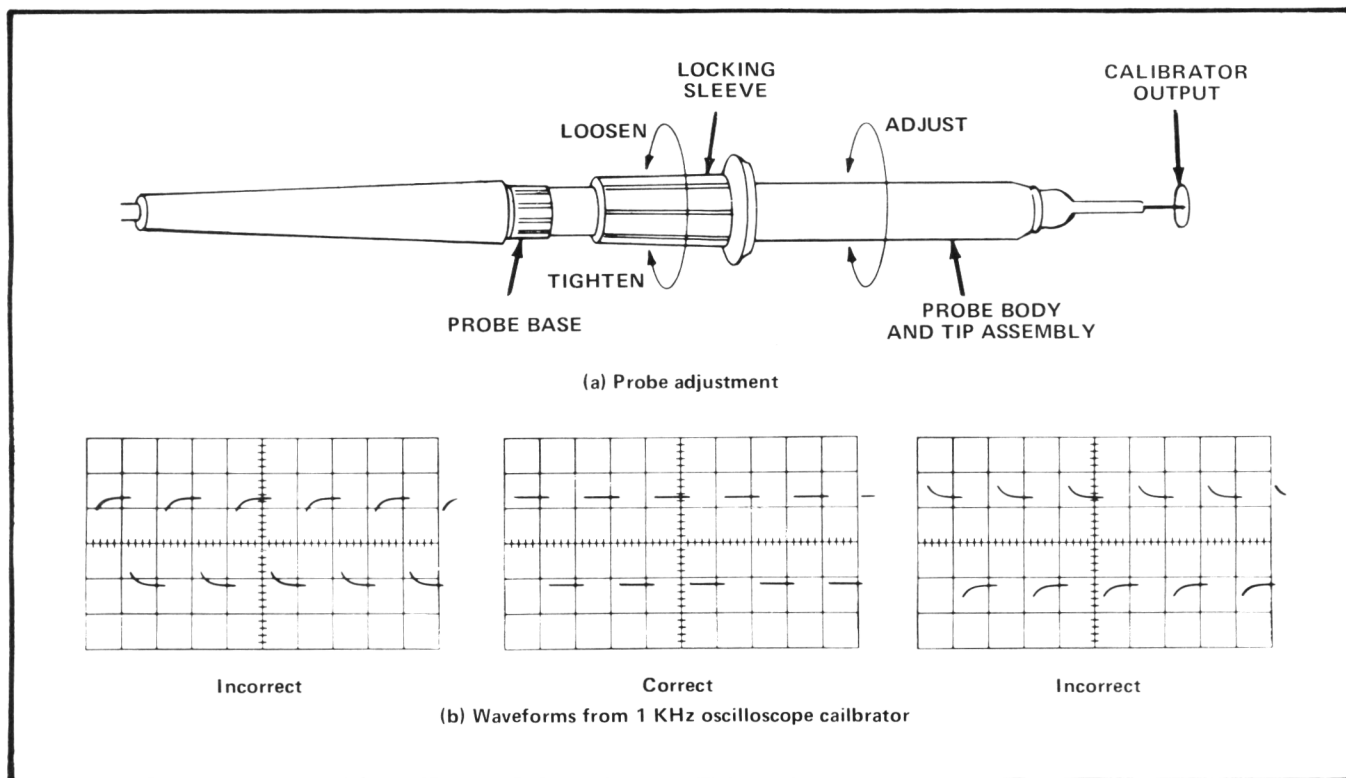

Fig. 5. Probe L.F. Compensation.
c. Hold the probe body and tip assembly and loosen the locking sleeve several turns (see Fig. 5).
d. Hold the base bushing and turn the probe body and tip assembly to obtain a flat-topped squarewave display, free of overshoot or rounding at the leading corner (see Fig. 5).